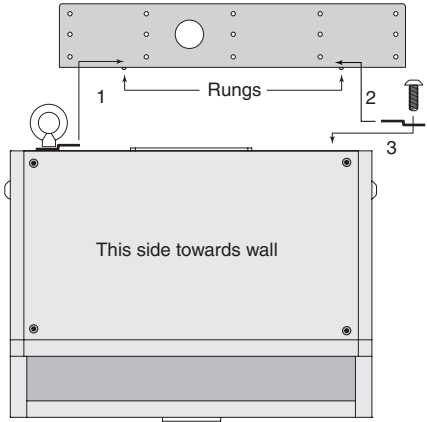

Figure 9: Midwall Mounting
Attach the four rubber mounting feet inside the corners on the side of the enclosure that will be against the wall and attach the safety line to the eyebolt. Insert one of the 3/8-16-thread Phillips-head screws through the remaining clip and keep it within arm's reach. Lift the enclosure up to the ceiling and bring its back into contact with the bracket rungs. Slide the enclosure sideways to engage the clip over one bracket rung (1) and, while holding it tight against both rungs, insert the 3/8-16-thread screw with its clip into the remaining mounting hole so the clip engages the remaining bracket rung (2, 3). Finger-tighten the screw and straighten the clip. The enclosure may now be released. It will slide down the rungs until the four rubber feet are snug against the wall. Using a #3 right-angle Phillips screwdriver, securely tighten the second Phillips-head screw. Gently rotate the EV® logo a quarter turn and press firmly at its center to seat it securely into its mounting hole. See Figure 9.